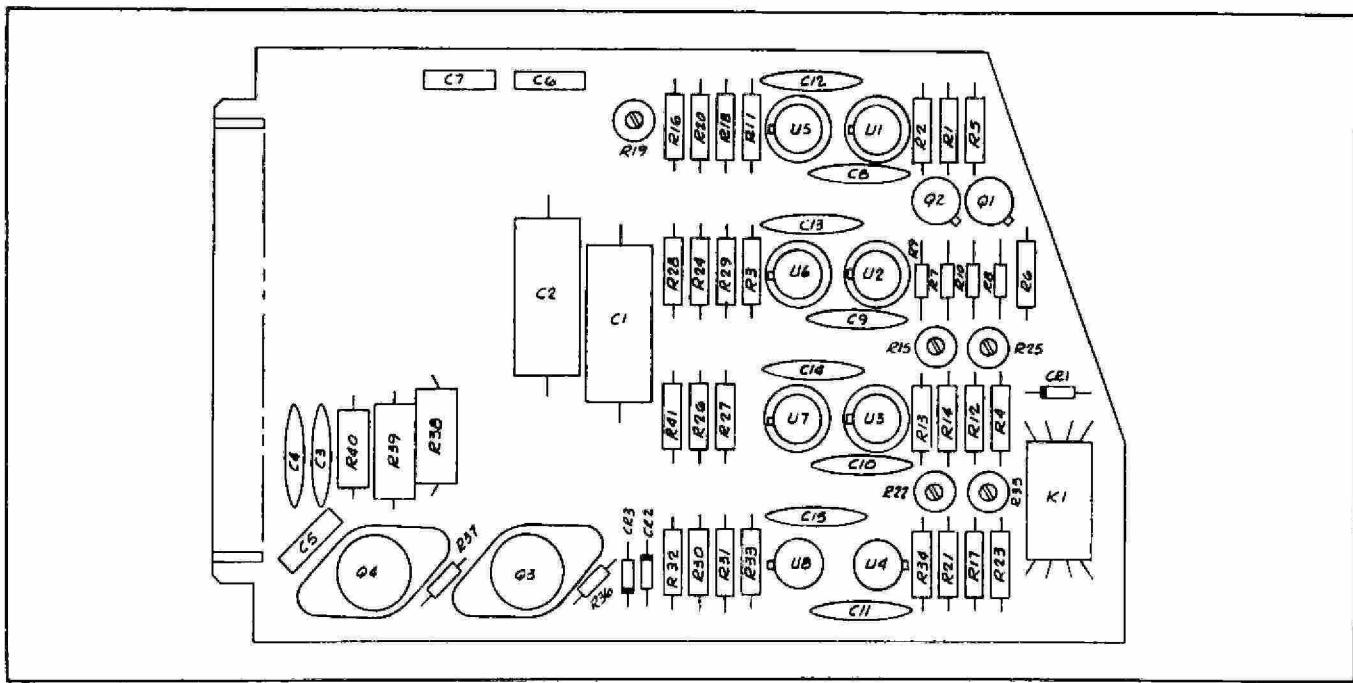

FIGURE 4-4. COMPONENT LAYOUT
- a. Locate all components on Figure 4-4.